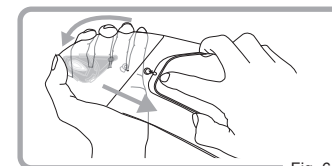

Fig. 6
- Remove the Pinlock® Original Insert Lens from the eccentric pins with flexing the shield. (Fig.6)